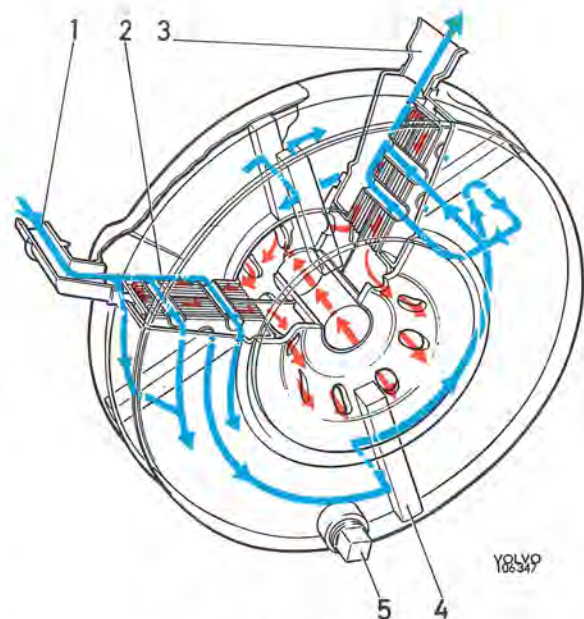

Fig. 2-48. Oil cooler
The oil cooler (Fig. 2-48) is fitted between the oil filter and the cylinder block and consists of an inner section for the oil which is surrounded by a cooling jacket. The engine coolant is led through the cooling jacket. On its way to the oil filter, the oil passes through the cooler and some of the heat in the oil is conducted away by the coolant. The coolant cannot pass the shortest way from the inlet (1) to the outlet (3) but is forced to go zig-zag and round the cooler as shown by the blue arrows in the Fig. (2-48). A number of rubber seals (4) force the fluid to go in this direction. The discs (2) are cooled by the coolant and divide a plate into two sections which is linked to the disc periphery. The oil enters the first section, nearest the engine block (see red arrows), is pressed along the discs into the other sections and along its discs. From there it continues into the oil filter.